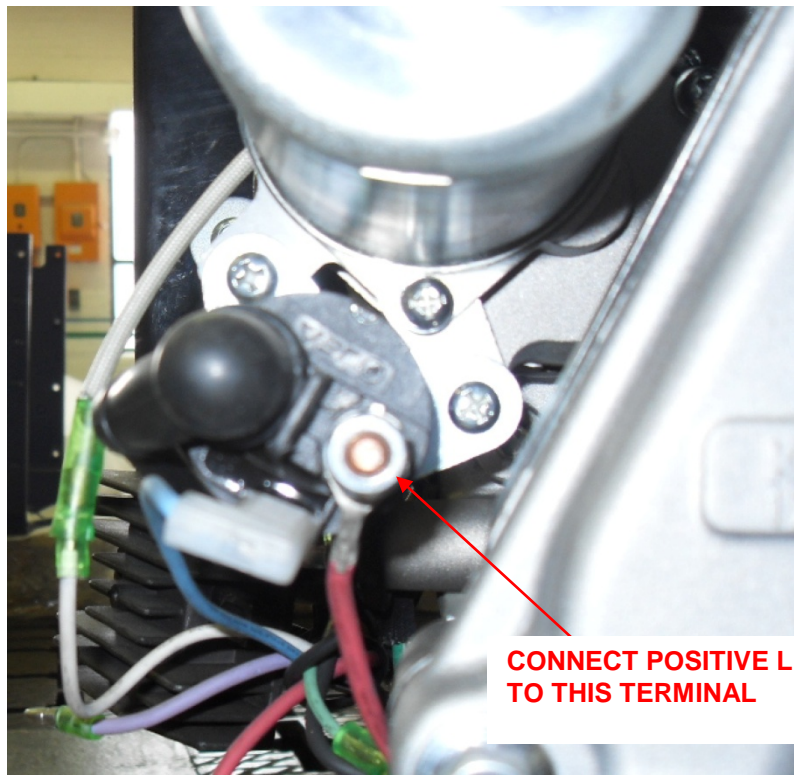

Figure 1
4. The positive lead should be color coded RED and all connections should be enclosed by non-conducting covers. See Figure 1 for Kohler connection. See Figure 2 for Honda connection.